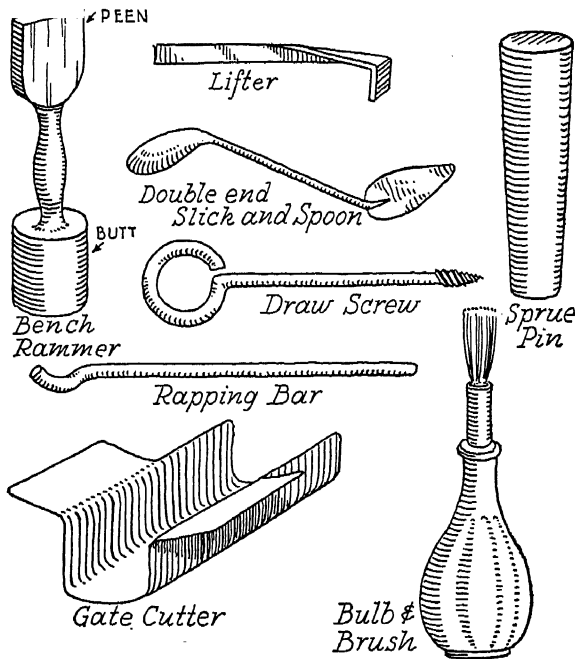

Fig. 235. Useful molding tools. Many of these tools can be made in the shop
**Tools** (see Fig. 235): Shovel or trowel; screen; draw screw; rapping bar; bellows; bulb and brush; rammer; gate cutter; sprue pin; slicks and lifters; flask; moldboard; bottom boards; pattern; furnace; melting pot; and ladle.